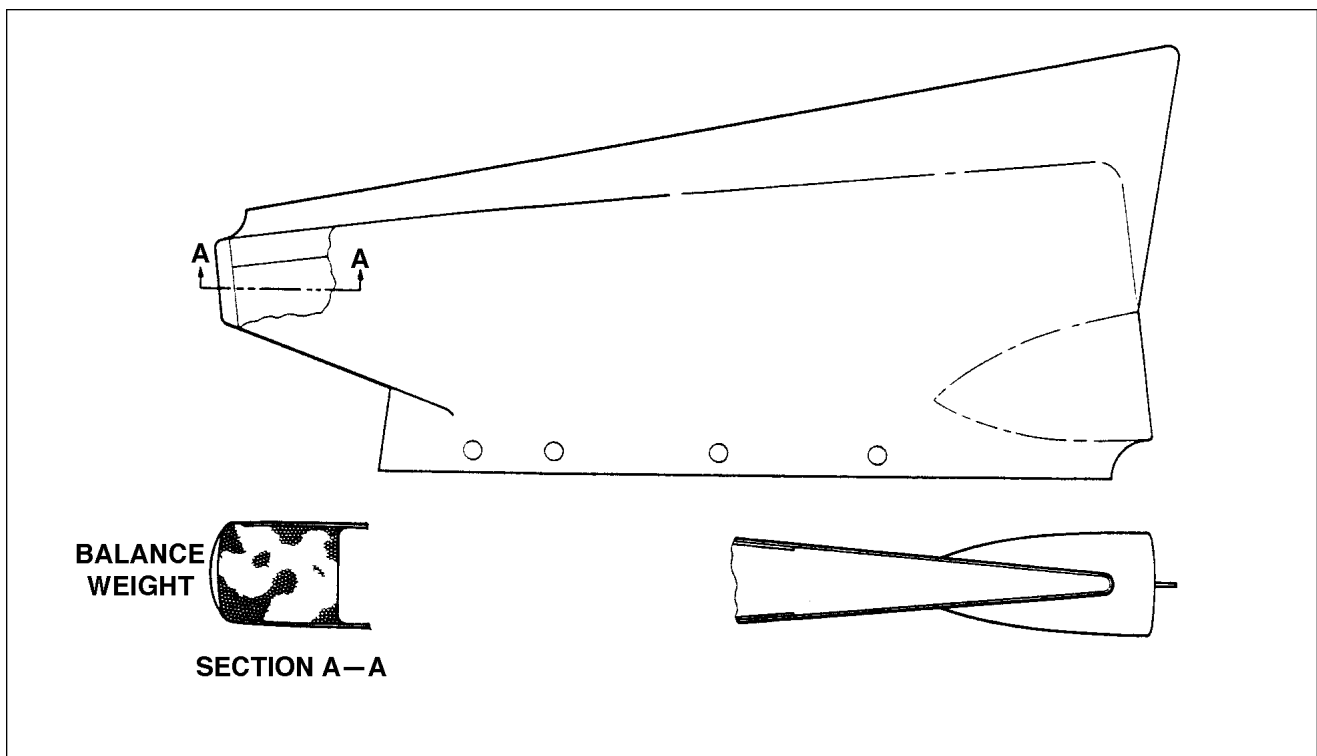

Figure 4-26. R udder Balance Weight
- b. Trailing Edge Heavy: This condition is caused by a light balance weight or a heavy rudder as a result of paint or repairs. A light balance weight is highly improbable because it is enclosed in fiberglass per Figure 4-26, Section A-A. Paint build-up must be stripped and surface repainted. If the rudder is too heavy as a result of repairs, the repairs must be removed and damaged parts replaced.